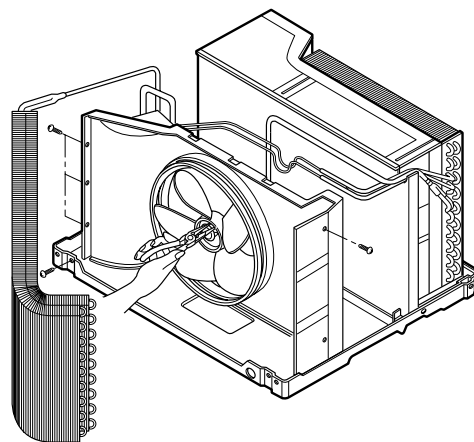

Figure 7
6. Remove the fan. (See figure 7)